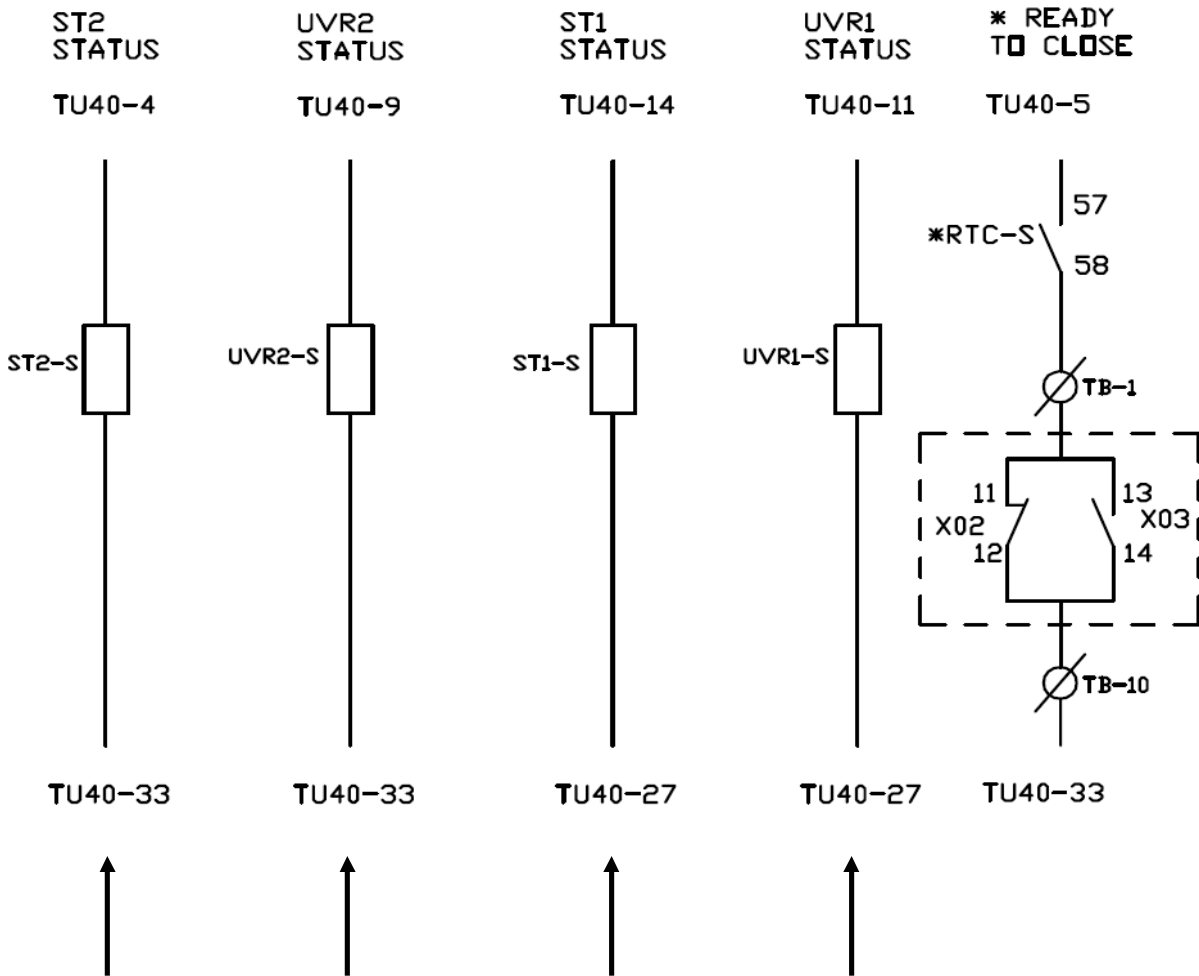

**Figure 8**
11. To reinstall the cover, rotate the charging handle down and slide the front cover over the handle to assemble the front cover to housing as shown in Fig. 8.